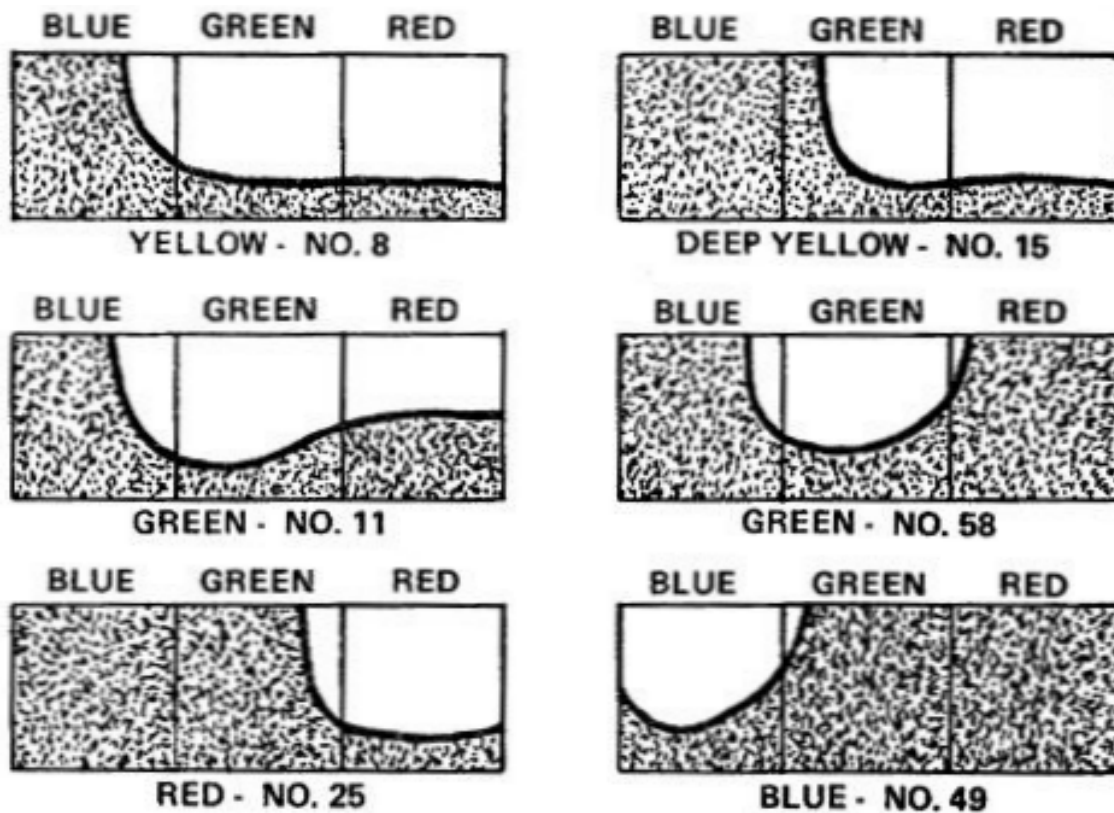

Figure 1-6. Absorption curves
a. No light filter will absorb one specific color, but rather it operates over a range of colors. Even within the range of colors, the effect of the filter may vary. Charts called absorption curves show the effect of filters. Figure 1-6 shows absorption curves for some of the most common filters.